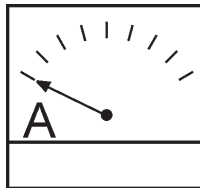

Figure 48. Ammeter (No Load)
8. The ammeter (Figure 48) will indicate **zero amps** with no load applied. When a load is applied, the ammeter will indicate the amount of current that the load is drawing from the generator.